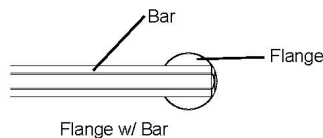

Figure 1B
6. Remove the flange from the bar (see Figure 1B).